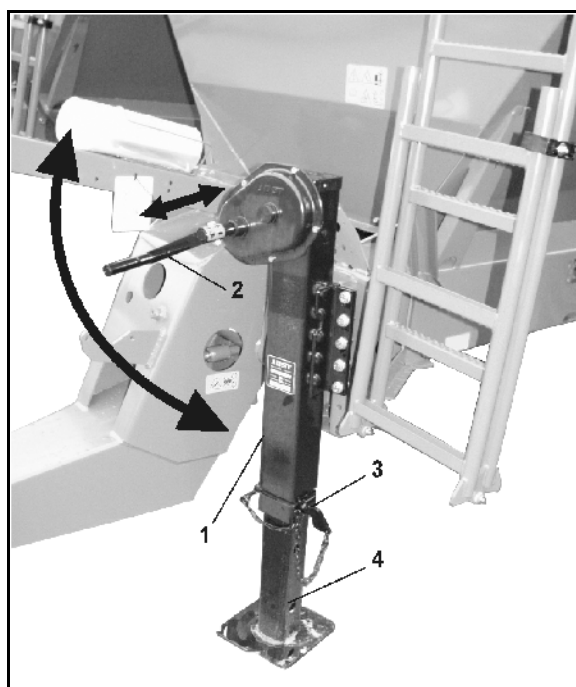

Fig. 40
1. Wind up the stand (Fig. 40/1) to the limit stop using the hand crank (Fig. 40/2).
2. Pull the pins (Fig. 40/3) out of the stand.
4. Insert the pins in the lower hole (Fig. 40/4) and secure them.
1. Hold the inside of the stand steady and pull the pins (Fig. 40/3) out of the stand.
4. Wind down the stand (Fig. 40/1) to the limit stop using the hand crank (Fig. 40/2) until the load is relieved from the yoke bar.